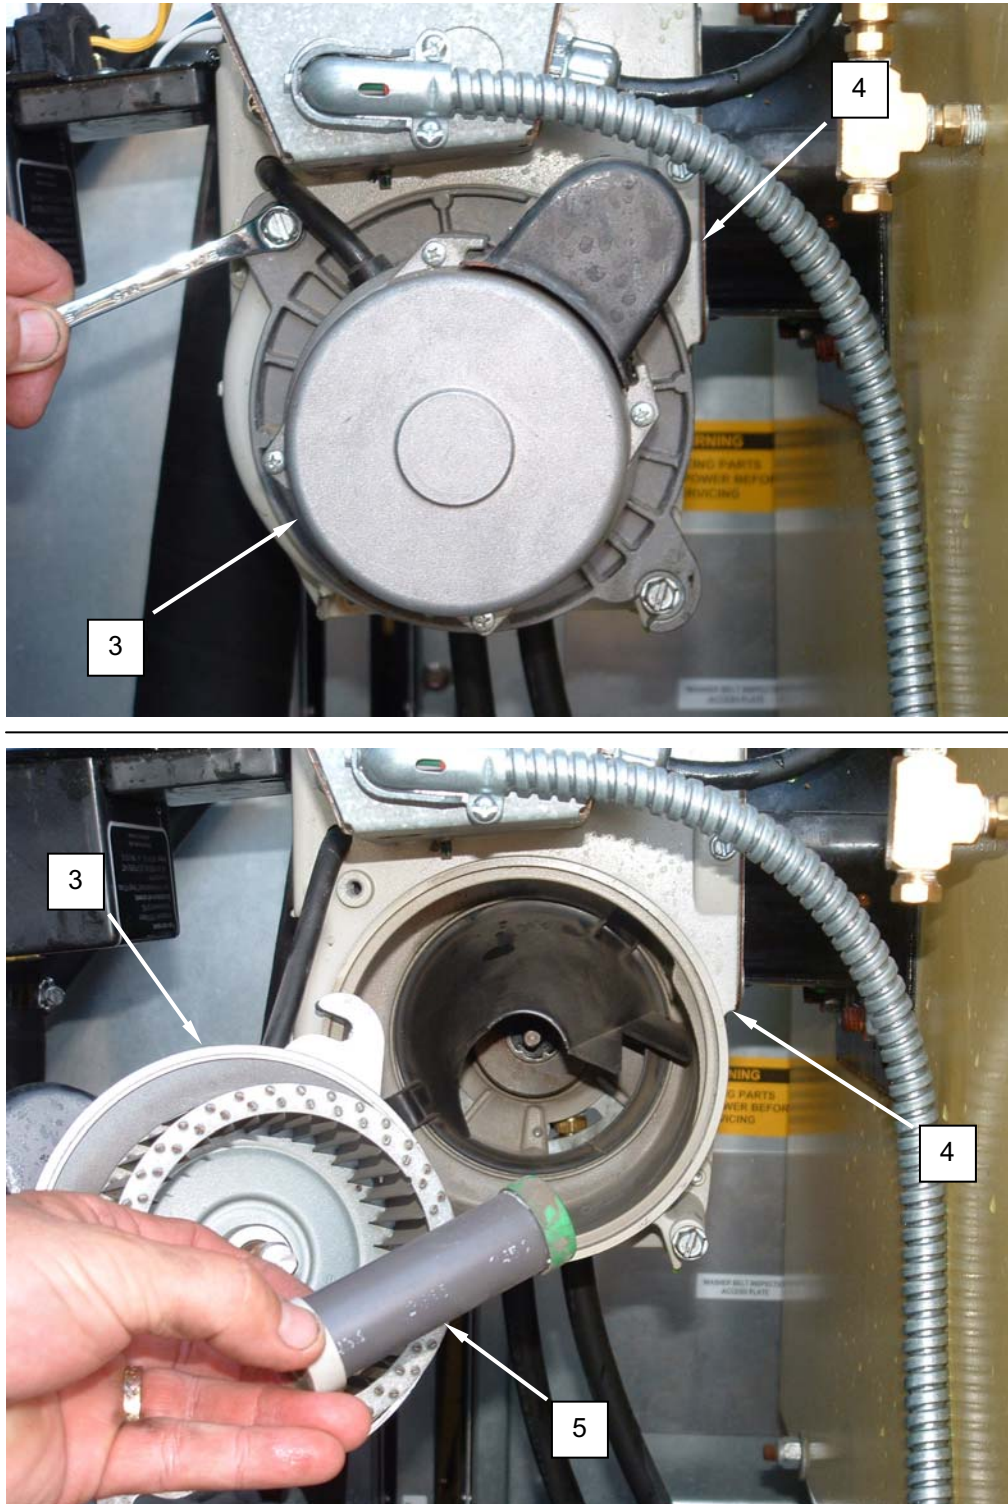

Figure 5. Replace the Fuel Pump Coupling.
2. Loosen the screws retaining the motor (**Figure 5, Item 3**) to the burner (**Figure 5, Item 4**), and remove the motor by twisting counter-clockwise.
3. Remove the fuel pump coupling (**Figure 5, Item 5**).
4. Install the replacement fuel pump coupling (**Figure 5, Item 5**).
5. Ensure the fuel pump coupling (**Figure 5, Item 5**) is in place, and install the motor (**Figure 5, Item 3**).
6. Ensure the motor (**Figure 5, Item 3**) is secure and tighten the screws retaining the motor.